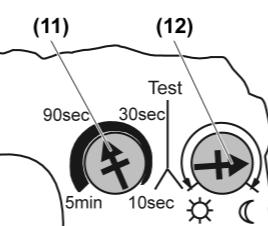

Figure 5: Setting the follow-up time and the brightness threshold
On the rear side of the housing cover of the motion detector, there is one adjuster each for the follow-up time (11) and the brightness threshold (12) (Figure 5).
- Set the required follow-up time using the adjuster (11).
- Set the required brightness threshold with the adjuster (12). The ☀ icon stands for Day mode, i.e. switching independent of brightness, and the ☁ icon for minimum brightness.
- Should the device need to switch at the start of twilight, then set the adjuster (12) as shown in (Figure 5).